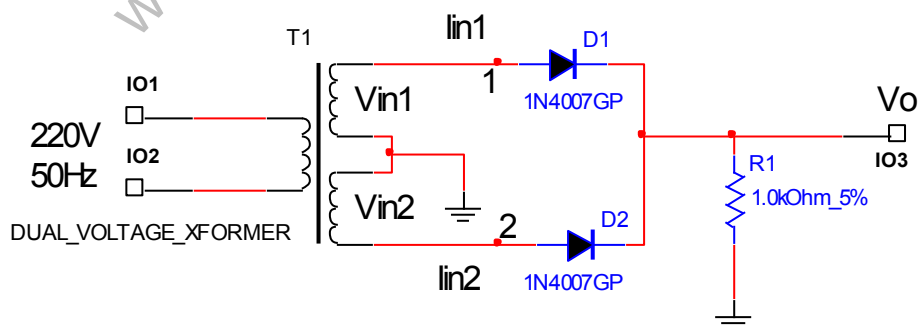

Fig3.1 Full wave rectifier
8. Connect the Circuit in Fig 3.1
13. Remove diode D_2 in the circuit in fig3.1